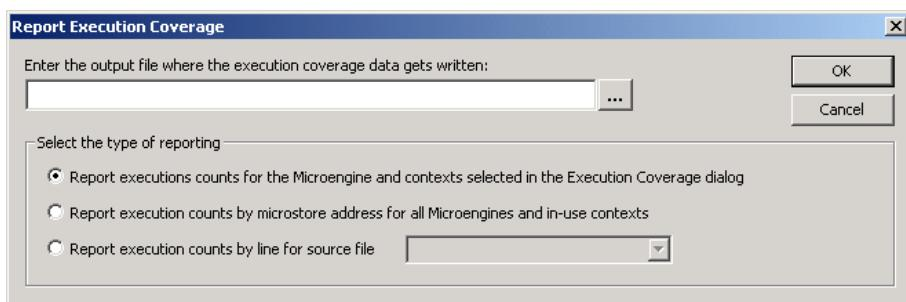

Figure 2.60. Report Execution Coverage for the Microengines
1. Report executions counts for the Microengine and contexts selected in the **Execution Coverage** dialog (see Figure 2.60). Effectively, this reports the same executions counts that are being displayed in the Execution Coverage dialog. The report is by microstore address and includes only the instructions executed by the Microengine and contexts that are selected in the parent dialog.